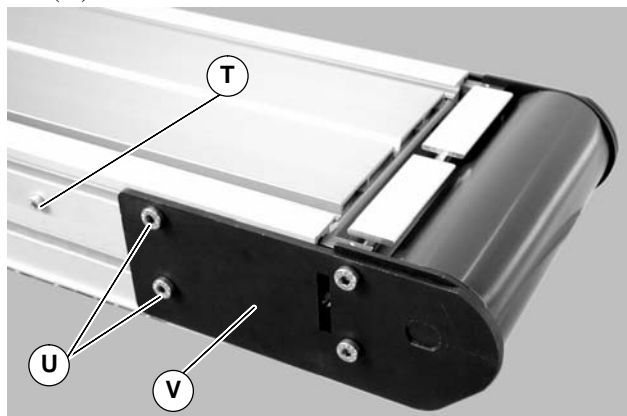
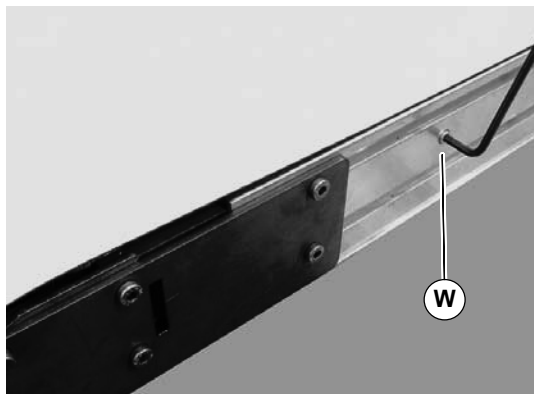

Figure 16
Figure 17
2. On tension end of the conveyor, identified by the pinion locking screw (T of Figure 16), push in head plate assembly (V): Loosen the pinion locking screw (T), adjust the pinion torque screw (W of Figure 17). On both sides of conveyor, loosen the two tail clamp bolts (U of Figure 16), and push head plate assembly (V) inward.